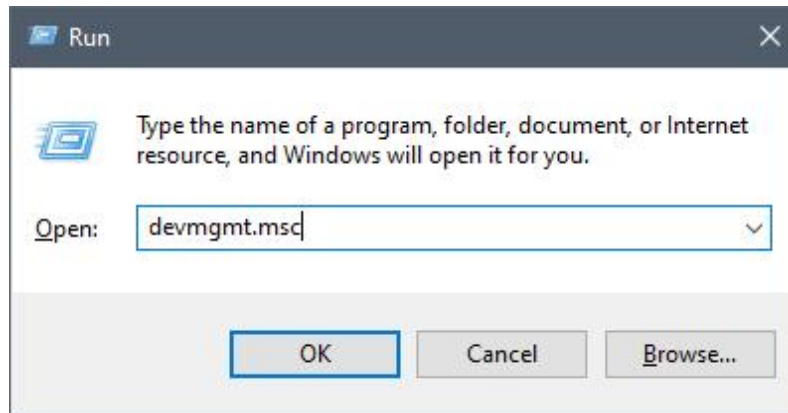

Figure 27: Command and method to open Device Manager.
2. Bring up the Microsoft Windows® Device Management Control. This can be achieved by either navigating through the graphical interface or by directly running the "devmgmt.msc" control file using the "Run" dialog shown in Figure 27. The "Run" dialog can be brought up by the key combination **Win** + "r".